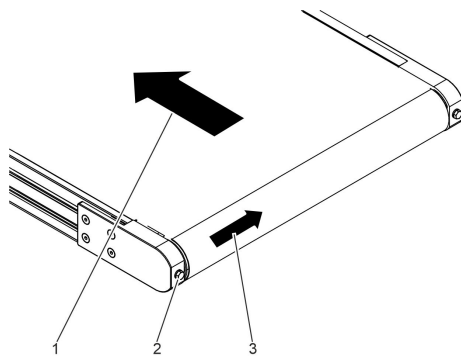

Fig. 76: Diverter roller infeed
- ➔ Make corrections in small steps by turning the clamping screw (Fig. 76/2) clockwise by 1/8 to 1/4 turn. The conveying direction corresponds to the direction of the arrow (Fig. 76/1).
- ⇒ The conveyor belt reacts in the direction of the arrow (Fig. 76/3).